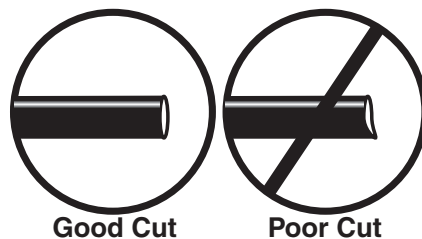

fig. 11
WHEN CUTTING OR TRIMMING THE AIR LINE, USE A HOSE CUTTER, A RAZOR BLADE OR A SHARP KNIFE. A CLEAN, SQUARE CUT WILL ENSURE AGAINST LEAKS. DO NOT USE WIRE CUTTERS OR SCISSORS TO CUT THE AIR LINE. THESE TOOLS MAY FLATTEN OR CRIMP THE AIR LINE, CAUSING IT TO LEAK AROUND THE O-RING SEAL INSIDE THE ELBOW FITTING (FIG. 11)
7. Cut off air line leaving approximately 12" of extra air line. A clean square cut will ensure against leaks (see fig. 11). Insert the air line into the air fitting. This is a push to connect fitting. Simply push the air line into the 90° swivel fitting until it bottoms out (9/16" of air line should be in the fitting).
- a. Check the air line connection by deflating the spring and removing the line by pulling the collar against the fitting and pulling firmly on the air line. Trim 1" off the end of the air line. Be sure the cut is clean and square (see fig. 11). Reinsert the air line into the push-to-connect fitting.